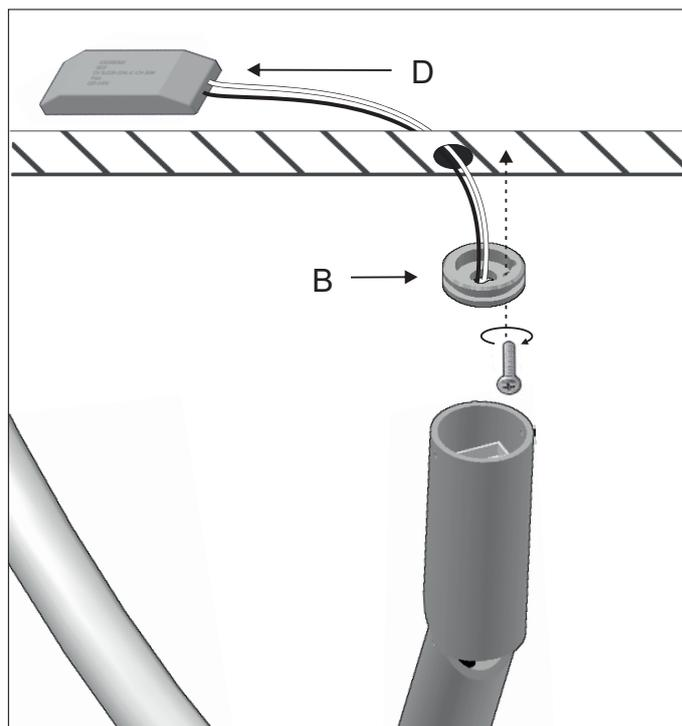

Figure 3
Run the cables from the remote driver (D) through the center hole of the mounting bracket (B). Attach the mounting bracket to the ceiling. Figure 3. **GO TO STEP 5**